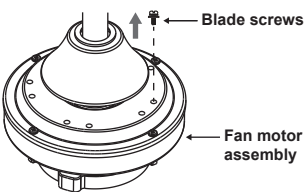

Figure 12
Step 1. Remove the ten blade screws from the fan motor assembly. (Fig. 12)